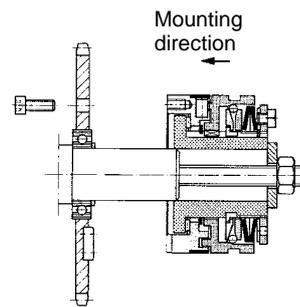
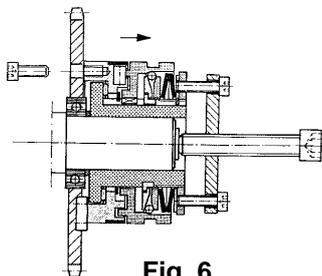

Fig. 3
Fig. 6
On the designs "EAS[®]-short supported hub" and "EAS[®]-long projecting hub", the input elements are installed onto the clutch hub and screwed together with the EAS[®]-clutch pressure flange (2). The clutch is then mounted onto the shaft using a suitable mounting device. On the EAS[®]-flanged version, first mount the input element with the bearing onto the shaft, then mount the clutch onto the shaft and screw it together with the drive element (Fig. 3). In operation which involves impacts and shaking, an additional transverse key should be installed between the drive element and the pressure flange (2) (Fig. 6).
When removing the clutch, either use the threaded holes in the adjusting nut (8.1) or in the pressure flange (2), dependent on the installation position. On the EAS[®] flange design, the input element must be removed from the pressure flange (2) before the clutch is removed (Fig. 6).